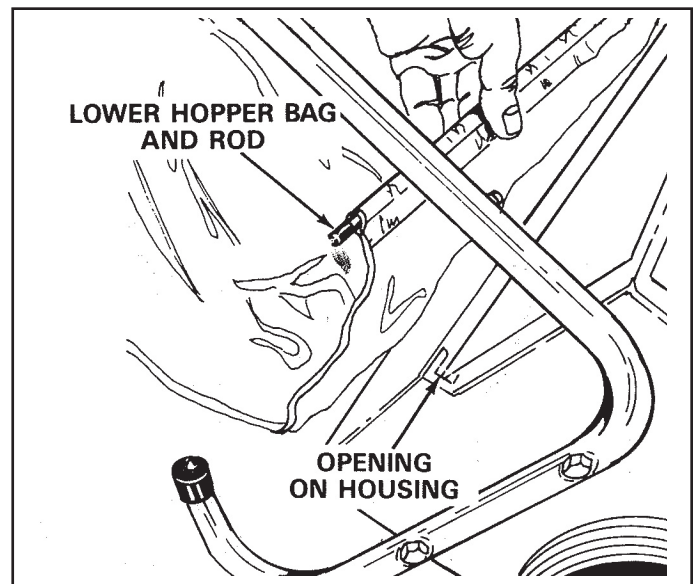

FIGURE 8
- Place the lower hopper bag and bag rod into the opening on the sweeper housing. See figure 8.